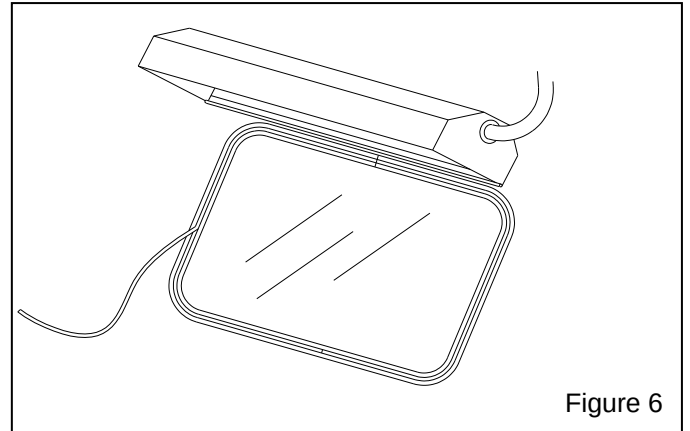

Figure 6
6.3.1 Swing the light-shield up and tie it in place, as shown in Figure 6.
6.3.2 Remove the filler strip by pulling it out of the window molding, as shown in Figure 6.